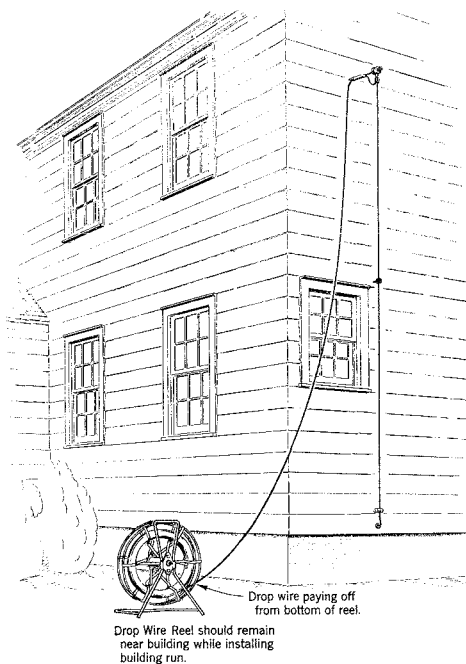

Fig. 1 — Drop Wire Attached to Building
(1) Install the first building attachment, attach the drop wire to this support, and complete the building run in a standard manner. In doing this work, keep the drop wire reel on the ground near the building to avoid accidents resulting from vehicles striking the wire or pedestrians tripping on it. (See Fig. 1.)